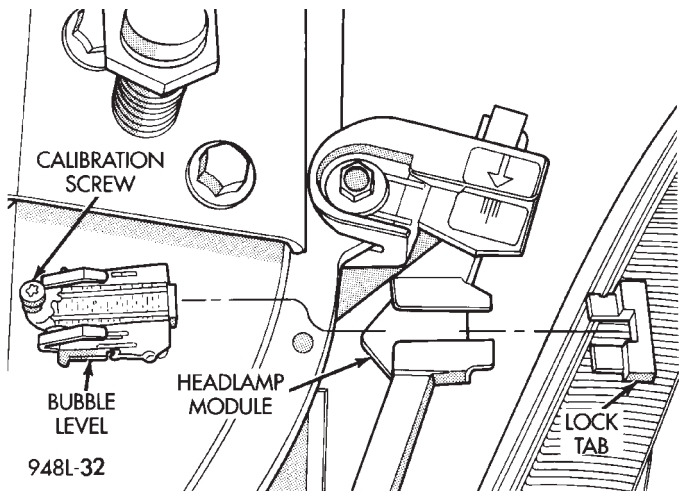

Fig. 1 Headlamp Bubble Level
- Pry lock tab from forward end of bubble level (Fig. 1).